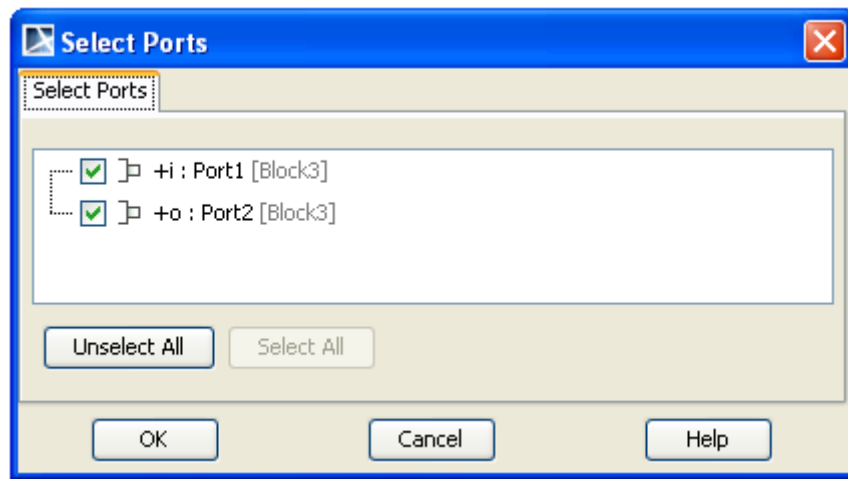

Figure 63 -- Select Ports Dialog
2. All ports (including flow ports) will then be listed in the **Select Ports** dialog (Figure 63).
3. Click **OK** (Figure 63) to view the selected (checked) port(s) on the part symbol.